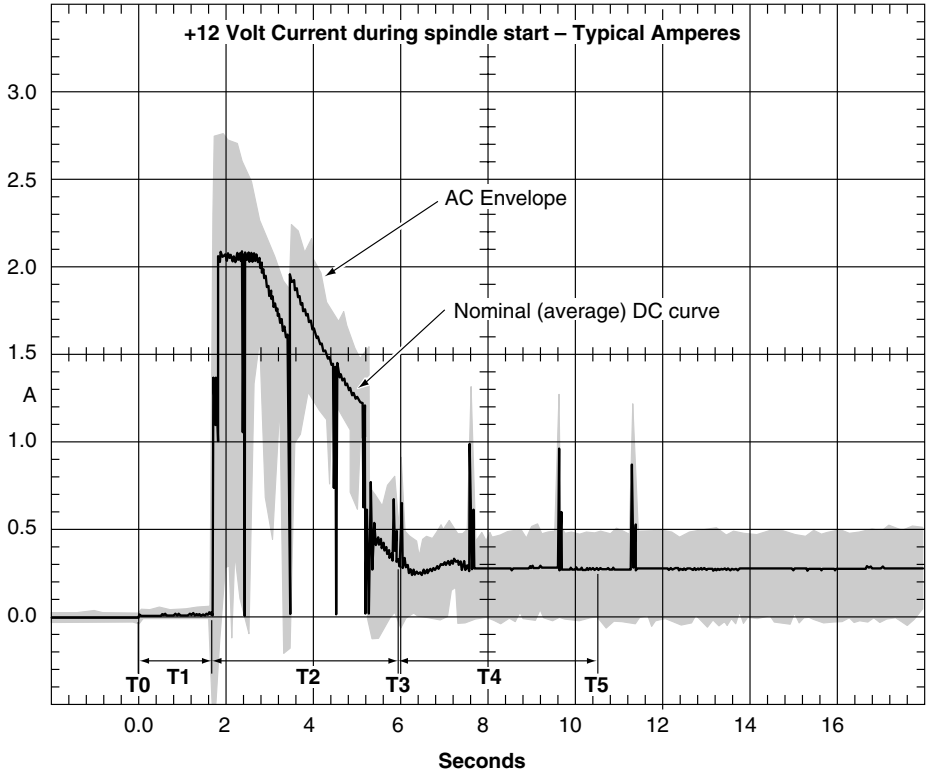

Figure 3. Typical ST336737 drive +12 V current profile
- [3] See +12 V current profile in Figure 3.
Figure 3 identifies the drive +12 V current profile. The current during the various times is as shown: